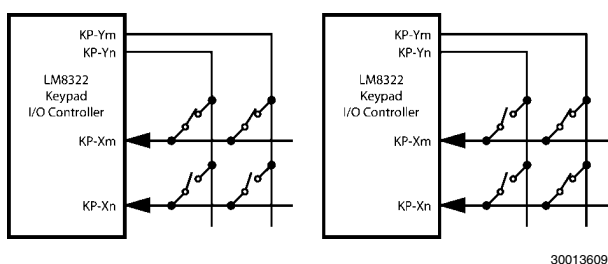

FIGURE 9. Simultaneous Keys Pressed
two simultaneous key pressings in one input row (see *Figure 9* on the left hand side.)
- If all key pressings (two or more) are located in different input rows (see *Figure 9* on the right hand side) then the key pressed events will be correctly found in the FIFO buffer without any restriction.